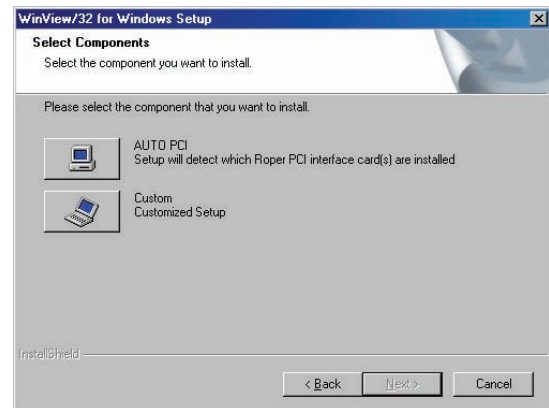

Figure 8. WinView Installation: Select Components dialog box
1. On the **Select Components** dialog box (see Figure 8), click on the **AUTO PCI** button to install the required drivers and the most commonly installed program files. Select the **Custom** button if you would like to choose among the available program files or do not want to install the drivers.